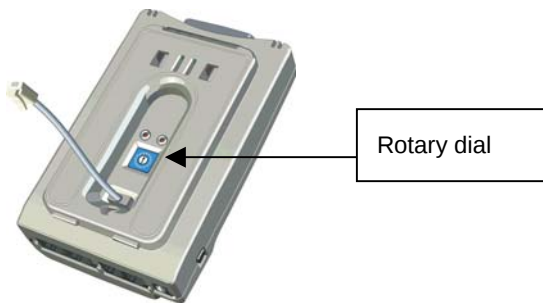

Figure 3: Rotary Dial
1. Set the channel selector on the back of the outlet using a small screwdriver (not provided). The channel is obtained from the WAP or via client software in the remote computer.(see *Figure 3*).
The channel you select when installing an XTN outlet will be the channel for your wireless network. The rotary dial (see Figure 3) on all outlets in your network must be set to the same channel as your network. If you are unsure of what channel to select, see the channel set in the software of the WAP or if provided from the client software with the client computer (associated with your network SSID).